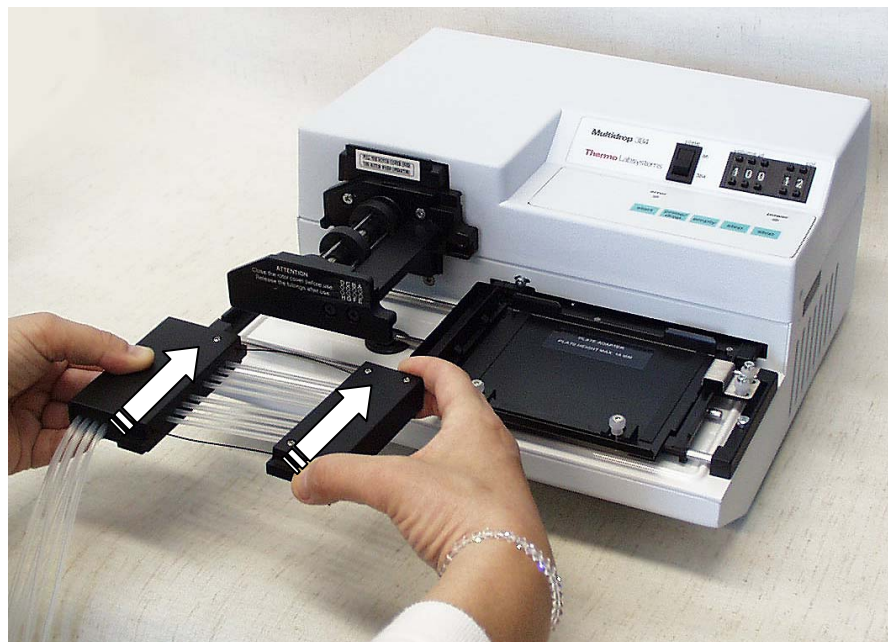

Fig. 6.2 Inserting the standard tube dispensing cassette
2. Take the lower part of the cassette into your right hand with the dispensing tips pointing down and the upper part into your left hand (Fig. 6.2).